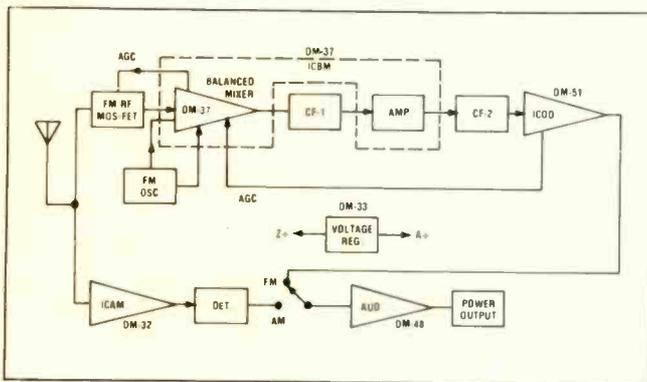

Fig. 1—Block diagram of 1976 Delco Chevette AM/monaural FM car radio.
■ A block diagram of the new AM/ monaural FM radio recently introduced by Delco for use in Chevrolet's new subcompact, the Chevette, is shown in Fig. 1.
As revealed by the block diagram in Fig. 1, the FM